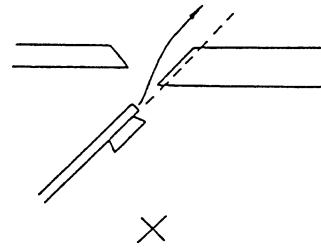

Figure 6-4 Incorrect Paper Cutter Mounting 2
- A layout such as that shown in Figure 6-4 may damage the surface of the paper. This layout is also undesirable because it applies excessive force on the thermal head when cutting the paper.